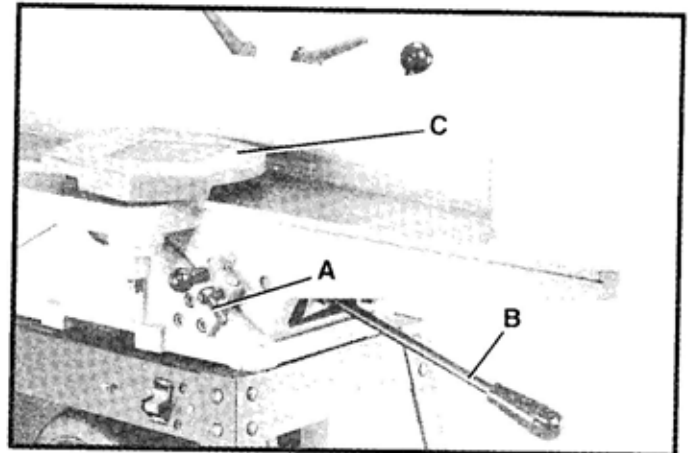

Fig. 39
2. Loosen lock lever (A) Fig. 39, and lower the infeed table by pushing lever (B) down. Remove cutterhead guard (C).